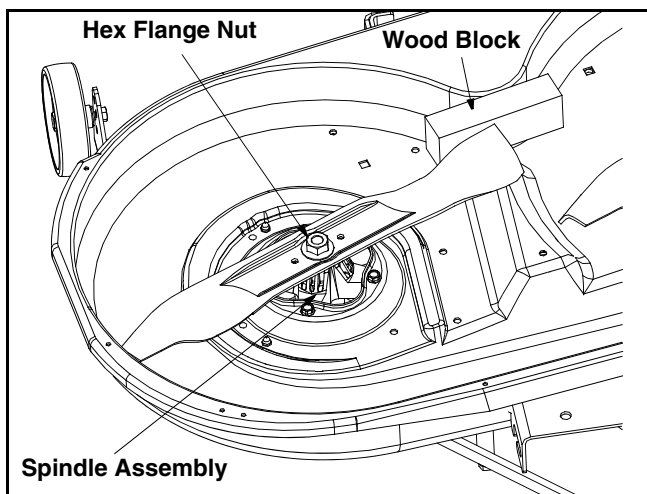

Figure 20
- Place a block of wood between the center deck housing baffle and the cutting blade to act as a stabilizer. See Figure 20.
- Remove the hex flange nut that secures the blade to the spindle assembly. See Figure 20.